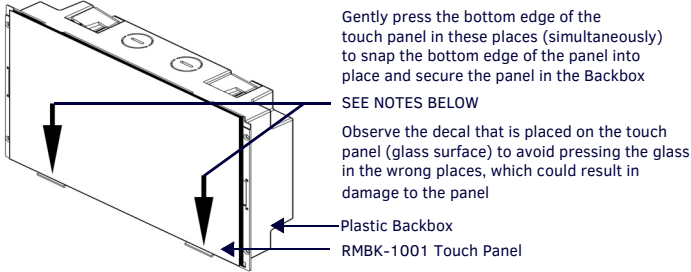

FIG. 5 SNAPPING THE BOTTOM EDGE OF THE PANEL INTO THE BACKBOX
- Gently press the bottom edge of the panel gently but firmly and ONLY IN THE PLACES INDICATED BELOW until the tabs click into place to secure the panel (FIG. 5):